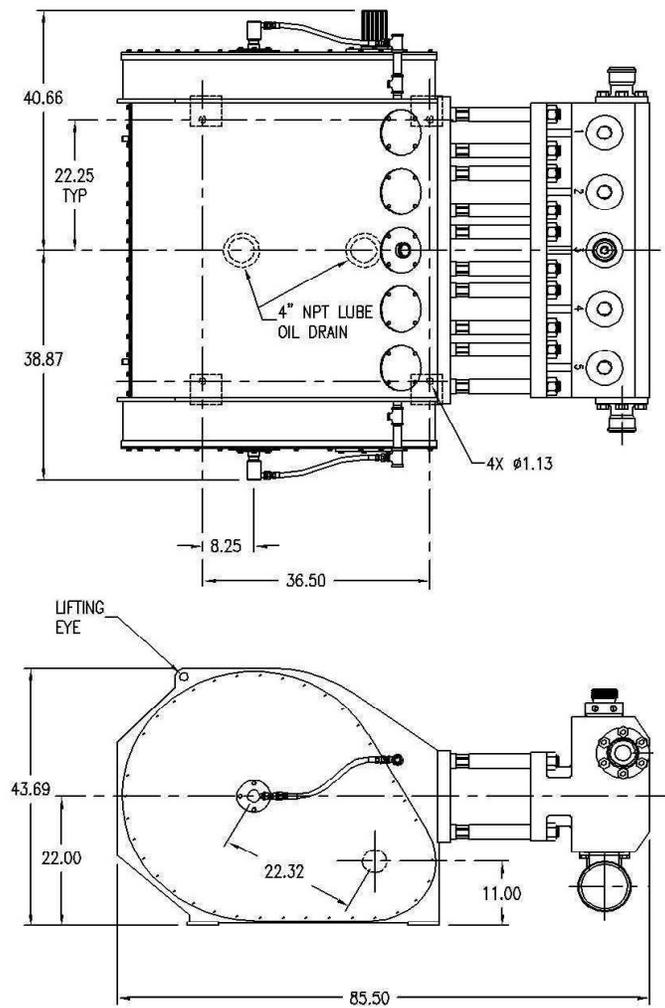

FIGURE 2-1: GD-2500Q Pump
The GD-2500Q quintuplex pump uses only two major assemblies: power end and fluid end. The gear reducer is located inside the power end. The pump is designed with a modular concept. Each assembly is a module that can be assembled, handled, installed, fixed, or transported separately from the rest of the pump (See FIGURE 2-1, page 9). The following is a brief description of the essential design features for each modular assembly.
place and in alignment with the power end by the twenty (20) stay-rods. (See FIGURE 2-1).